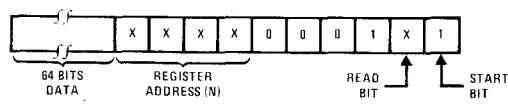

FIGURE 3a
- d) During a valid handshake, the data stream consists of: a start bit, a read/write bit, a 4-bit Delay, 4 register address bits and 64-bits of data as shown in *Figure 3a*. Data flows serially in or out of the MM57126, depending on the read/write command.